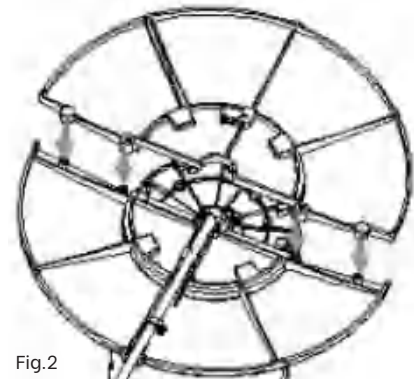

Fig.2
2. Fit the the other half of the base plate and align with corresponding screw holes of the matching half and push down as shown in (Fig.2)